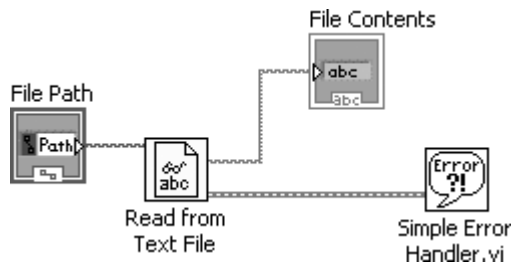

Figure 9.43
2. Build the block diagram in Figure 9.43.